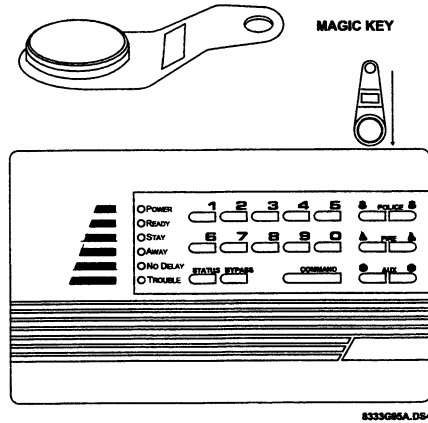

Figure 3. Inserting the Magic Key into the Slot
2. Insert the Magic Key into the panel key slot (see Figure 3).
3. Insert the Magic Key into the panel key slot (see Figure 3).